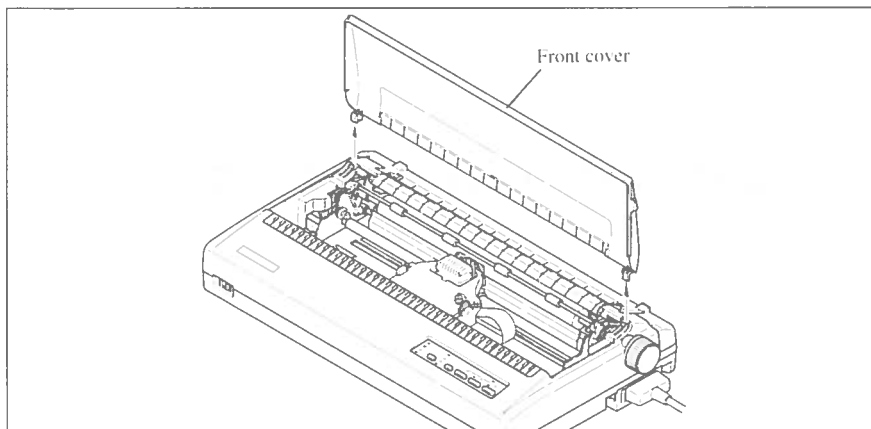

Figure 7-2. Remove the front cover from the printer.
3. Remove the paper guide, and move the release lever at the back of the printer to the rear position as shown in Figure 7-2.